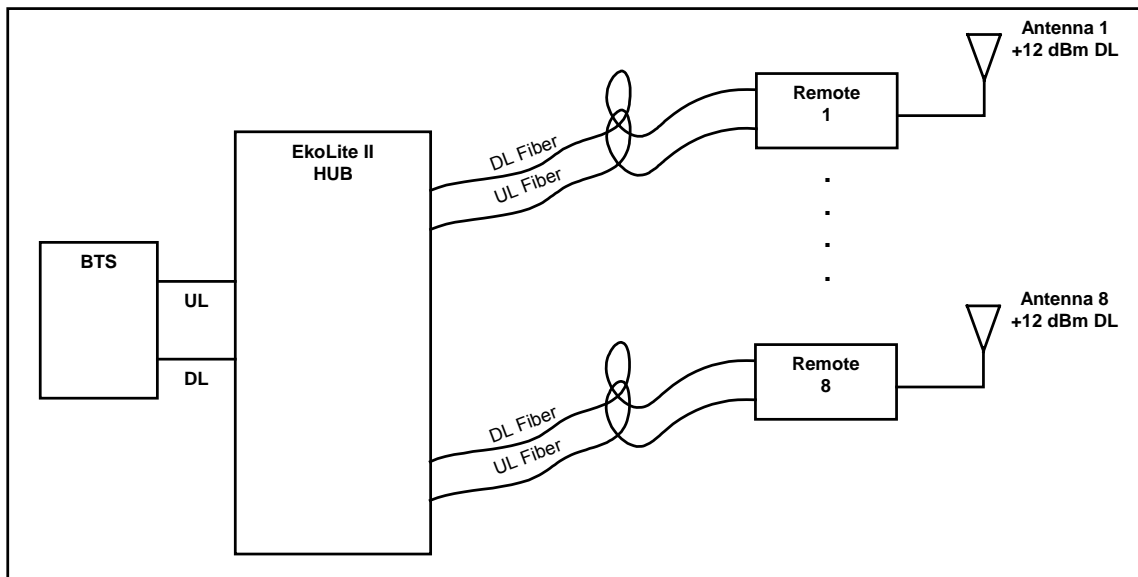

Figure 2. EkoLite II functional diagram.
- Figure 2: EkoLite II Functional Diagram
There are four main components comprising the EkoLite II System: The Hub, the Remote, the Fiber, and the Antenna. Figure 2 is a functional diagram of the EkoLite II system.